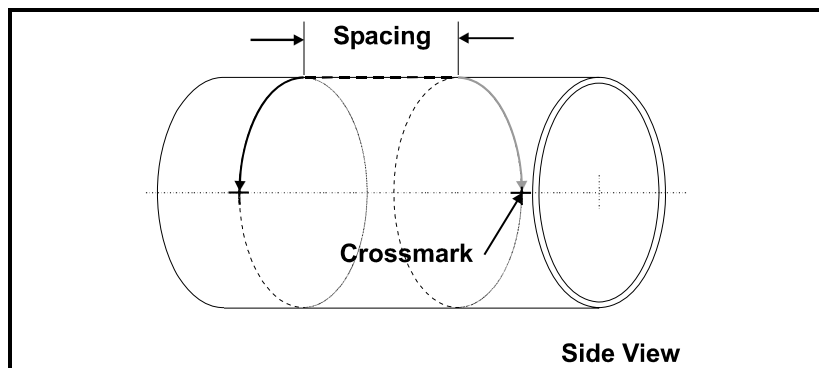

Figure 1-19: Measuring the Second Quarter Circumference
7. From the other mark, go in the opposite direction around the pipe for one quarter the circumference and make another crossmark, as shown in Figure 1-19 below.